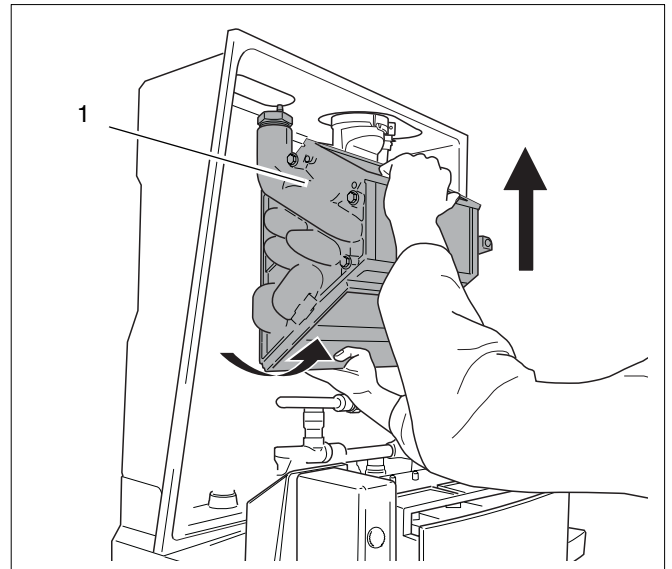

Fig. 136 Dismantling the heat exchanger
- Remove the heat exchanger by grabbing its bottom end and pulling forward and then pushing it upwards (see fig. 136, pos. 1).